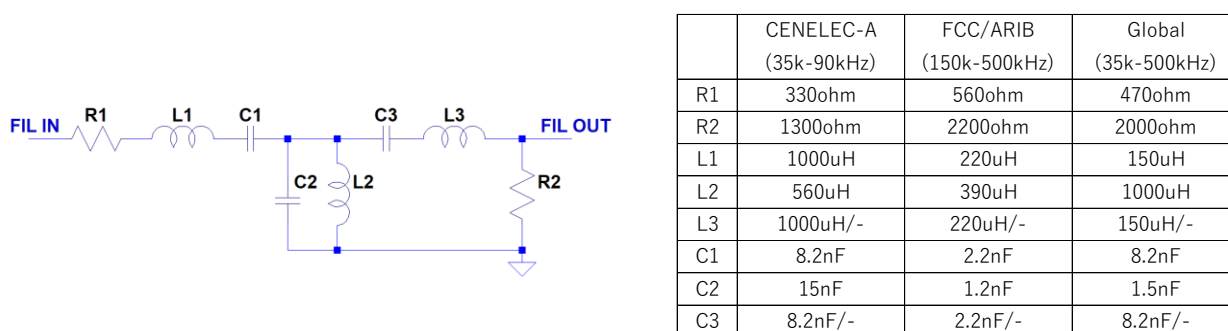

Figure 3-11 Configuration of RX-BPF and the circuit constant
- RX-BPF is used to suppress the noise which is outside the signal frequency band. When using ISL15102 for power amp of transmission, PLC Coupler needs to set the turns ratio of IC side: AC line side to 2: 1 due to the drive capacity of ISL15102. When using a 2: 1 PLC Coupler, the input impedance of the PLC board seen from the AC line side looks 1/4 compared to when using a 1: 1 PLC Coupler, so the input impedance drops. Therefore, in order to reduce the decrease in input impedance, select the RX-BPF constant for the frequency band used as shown in Figure 3-11.